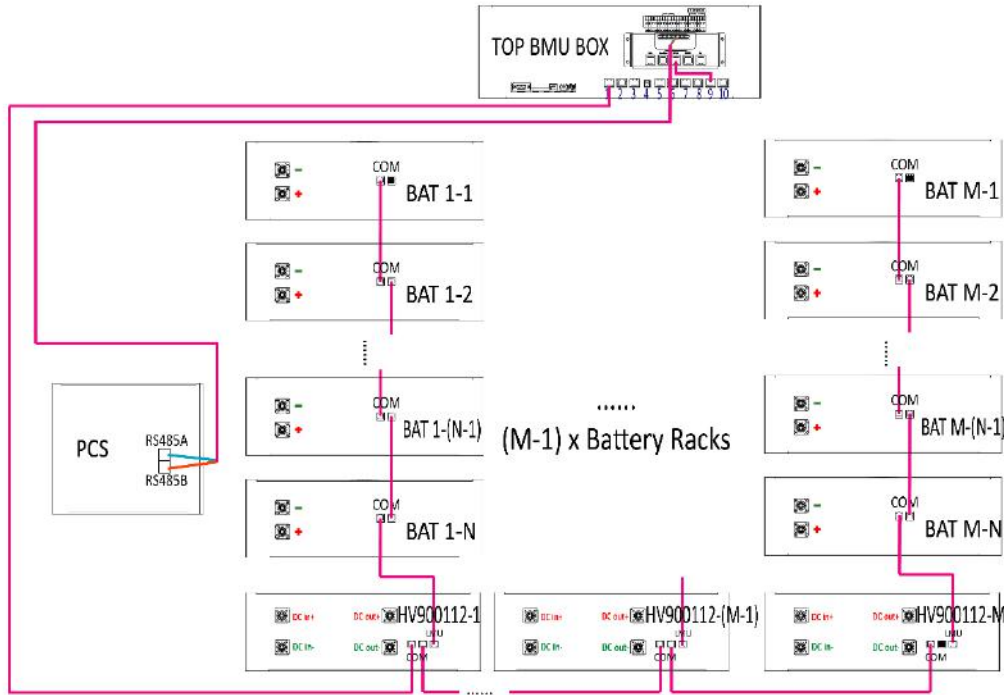

Figure 4.14 Battery side communication cables connection
d. Connect HV900112 (COM Port) in the nearest cluster from TOP BMU and TOP BMU box (COM Port, Port 1 or 2) by using the communication cable from TOP BMU part list. Then connect HV900112 (COM port) one by one by using cable from HV900112 parts list, please see Figure 4.14.